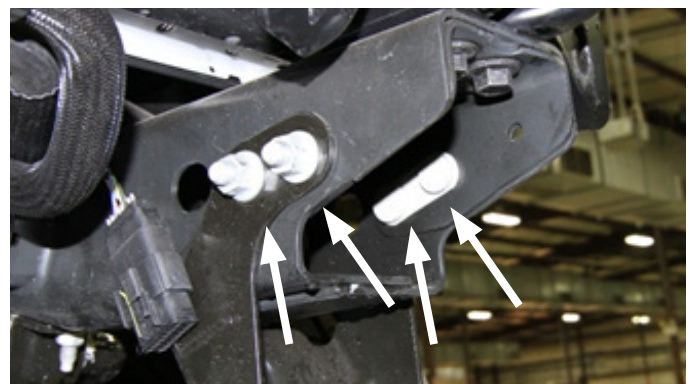

Figure 4
4. Using an 18mm socket wrench, remove the four (4) nuts and bolt plates from the frame horn brackets. (Figure 4)